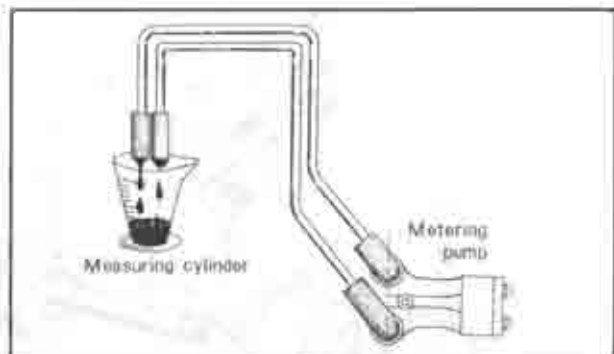

Fig. 2-16 Checking oil discharge
4. Connect a tachometer. Run the engine at 2,000 rpm and put the oil hoses in the measuring cylinder as shown in Fig. 2-16.